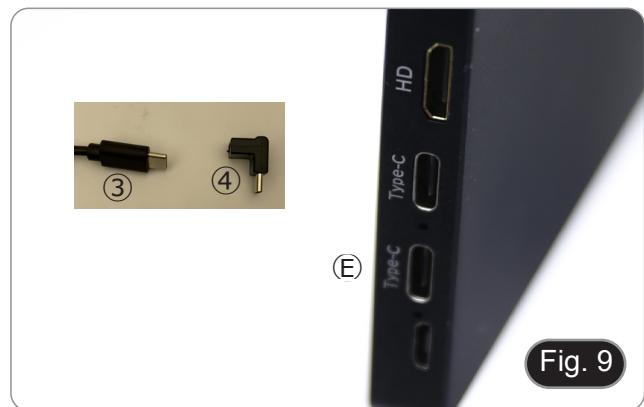

Fig. 9
10. Plug the monitor power supply connector ③ in the provided “L” adapter ④. (Fig. 9)
11. Plug the “L” adapter in the “Type C” port ⑤ placed on the right side of the monitor.